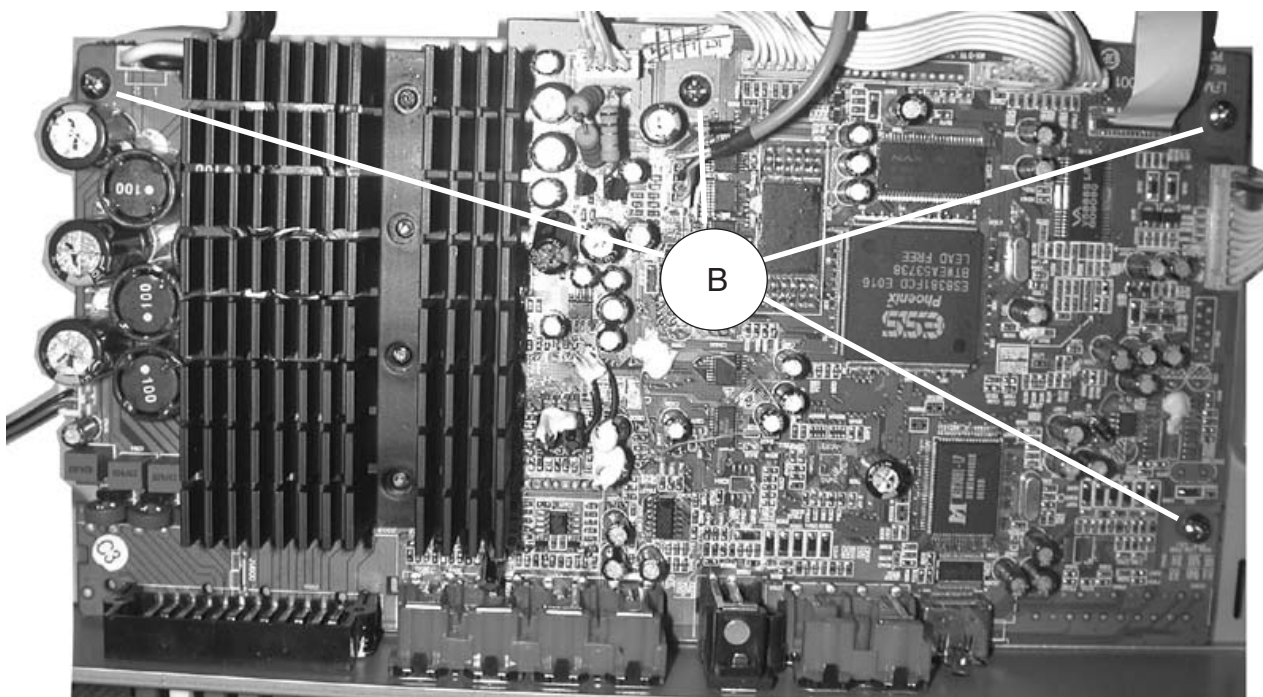

Figure 5
- 2) Loosen 4 screw "B" on the top of main board as shown in figure 5.